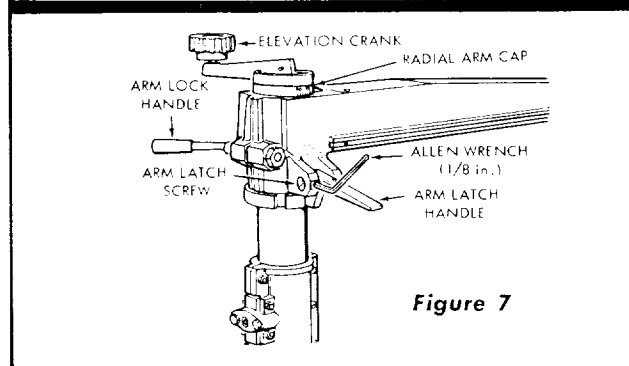

Figure 7
- a. Loosen the arm lock handle. Position the radial arm in 0° position, press arm latch handle down firmly into the detent notch. (See figure 7.)